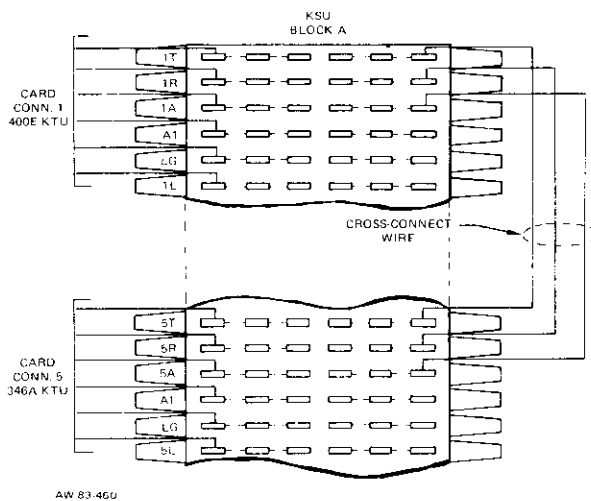

Figure 20: Connecting Details, 346A KTU to Line Card KTU
- (c) On KSU connecting block A, or on the KSU expansion block on the MDF, locate the T, R, and A terminals associated with the card connector for the 346A KTU. Cross-connect these terminals to the T, R, and A terminals for the associated line card KTU as shown in Figure 20.